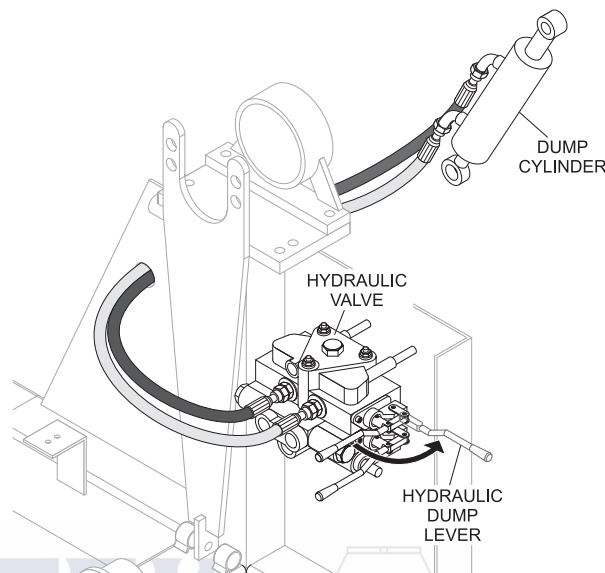
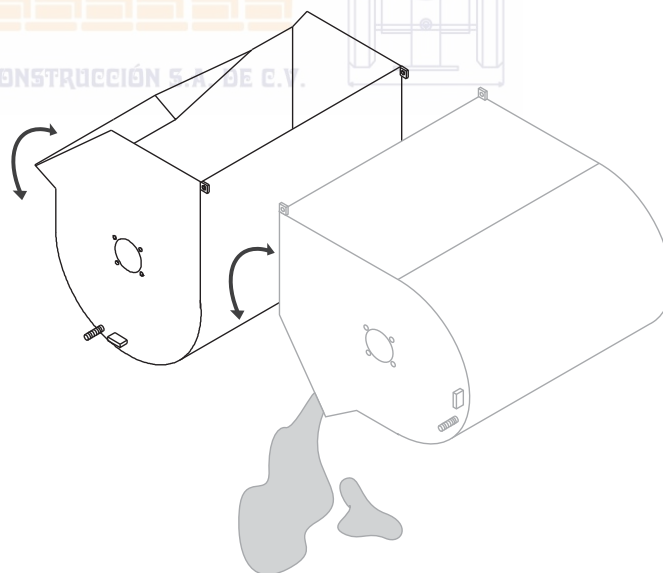

Figure 27. Hydraulic Dump Lever
Figure 28. Hydraulic Dump
1. If operating a mixer with hydraulic dump capability, pull hydraulic dump lever (Figure 27) outward to place drum in dump position (Figure 28).